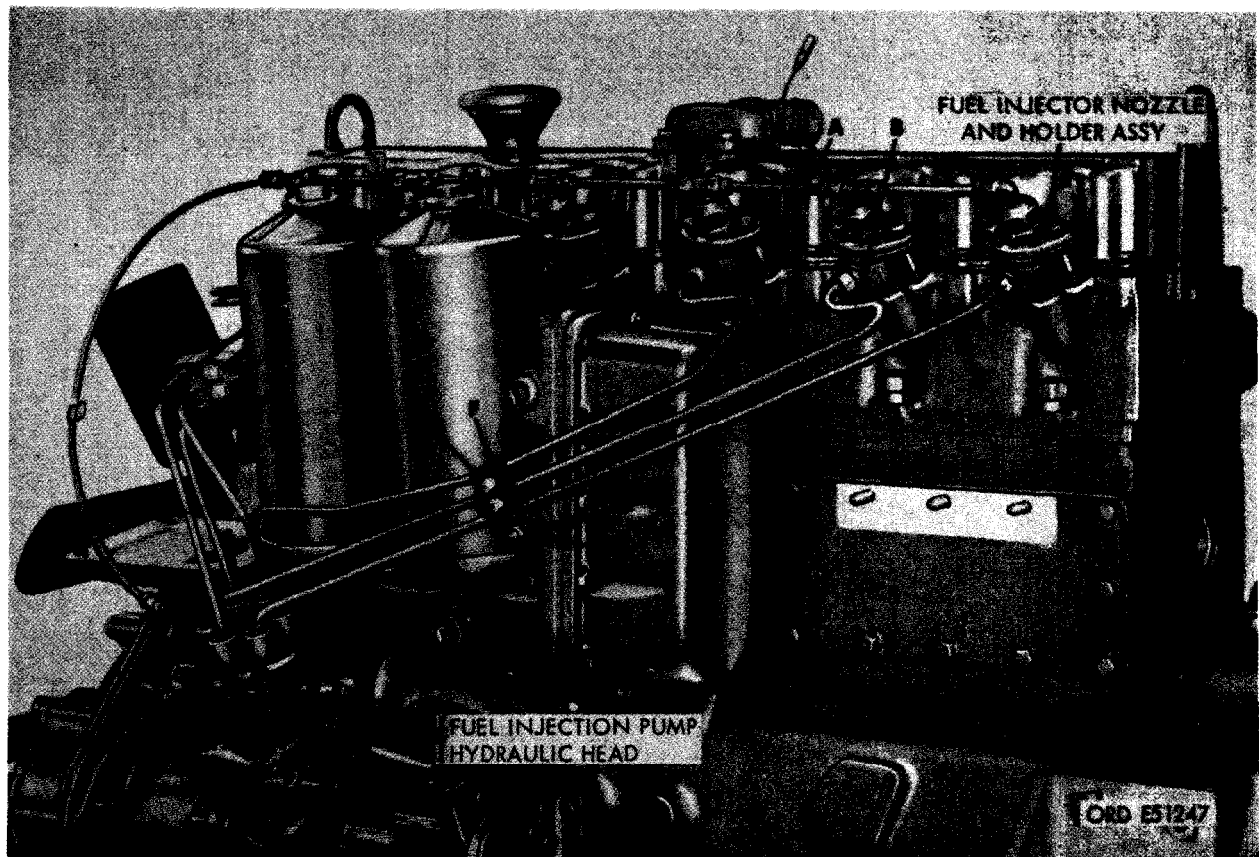

FIGURE 509. CONNECTING CYLINDER NO. 4, 5, AND 6 FUEL INJECTION TUBES (LATE MODEL ENGINE).
- (2) Figure 509. (A) Connect fuel injection tube to nozzle and holder in cylinder No. 4. Remove dust cover from No. 4 port opening in pump hydraulic head and connect tube to head. (B) Connect fuel injection tube to nozzle and holder in cylinder No. 5. Remove dust cover from No. 5 port opening in pump hydraulic head and connect tube to head. (C) Connect fuel injection tube to nozzle and holder in cylinder No. 6. Remove dust cover from No. 6 port opening in pump hydraulic head and connect tube to head. (D) Install injection tube inner clamp on oil cooler and oil filter housing stud. Position clamp so tubes fit in recesses. (E) Install 3/8-inch plain washer, 3/8-inch lock washer, and 3/8-inch plain nut to secure inner clamp. (F) Install fuel injection tube outer clamp over fuel injection tubes. (G) Install two 1/4 x 1-3/8 cap screws, 1/4-